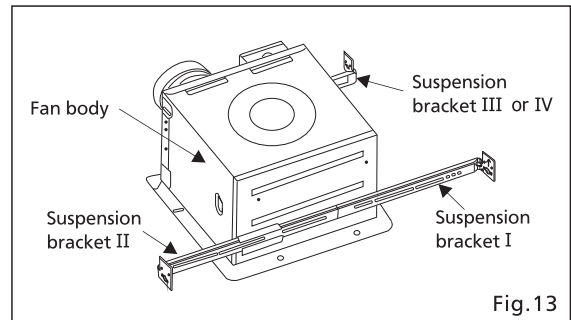

Fig. 13
2. Insert the suspension bracket I and II into the fan body and suspension bracket III or IV into the adaptor. (Select the suspension bracket connection holes as shown below) (Fig.13, Fig. 14)